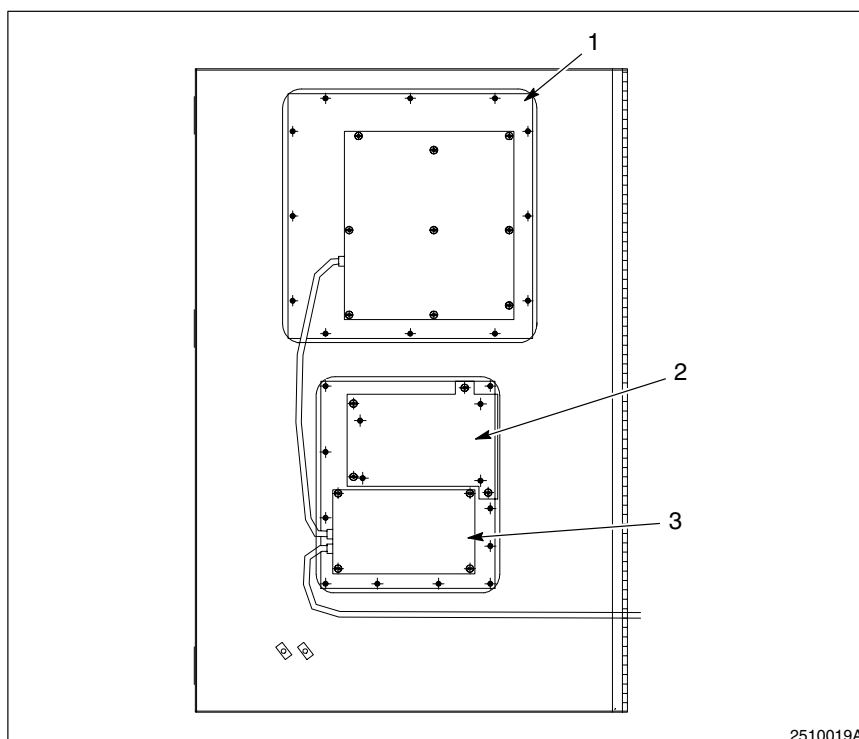

Fig. 6-3 Components Inside the Front Enclosure Door
2. See Figure 6-3.
4. See Figure 6-3.